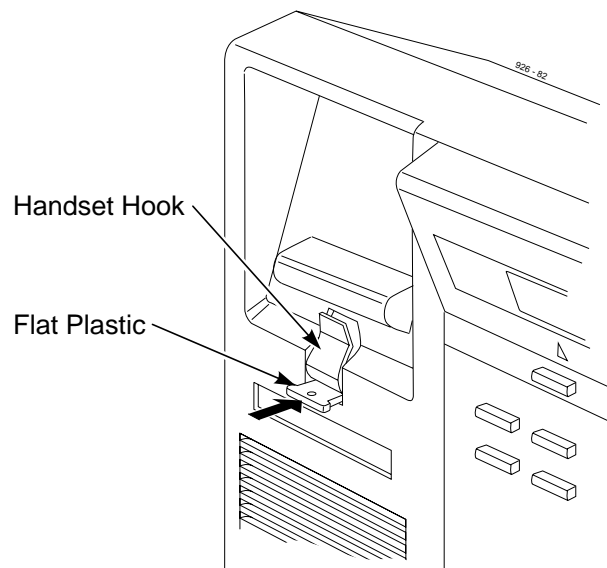

**Figure 4-31 INSTALLING THE WALL-MOUNT HANGER (i-SERIES PHONES)**
### Installing the Wall-Mount Handset Hanger For i-Series Phones (Figure 4-31, Figure 4-32)
1. Remove the integrated wall/desk bracket from the bottom of the phone. Refer to Figure 4-31.
1. After removing the integrated wall/desk bracket from the bottom of the phone. (Figure 4-31), break off the 1 1/2" section of the bracket as indicated in Figure 4-31 and discard this piece.